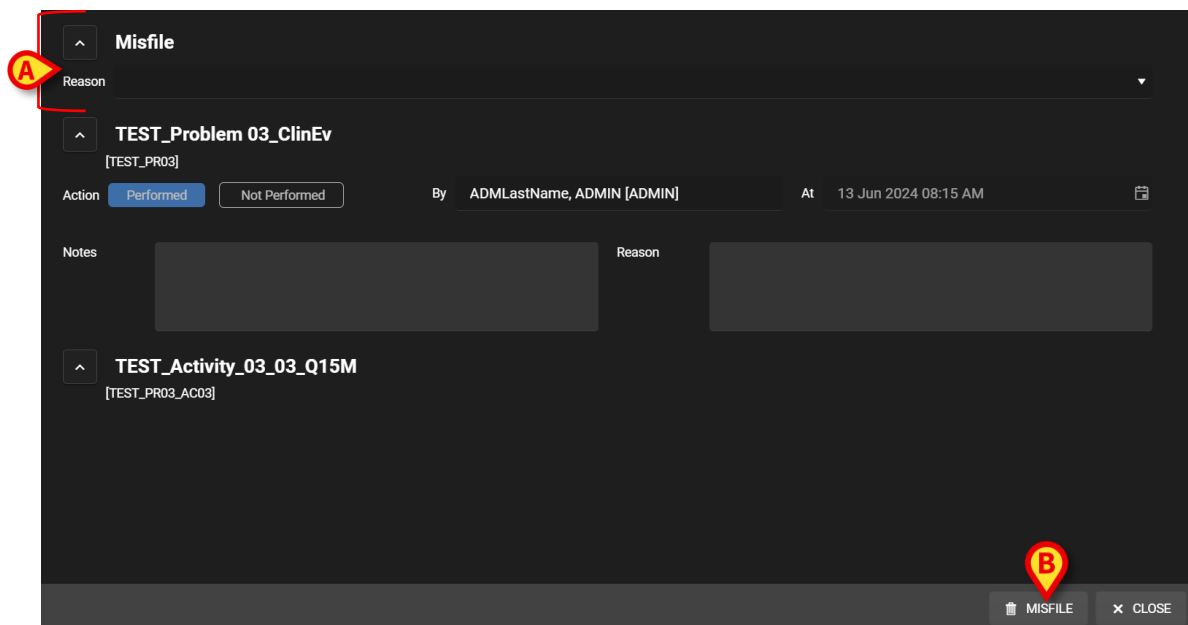

Fig 90
A “Misfile” section, including a “Reason” field, is enabled on the window (Fig 90 A).
- Click the **Misfile** button again (Fig 90 **B**).